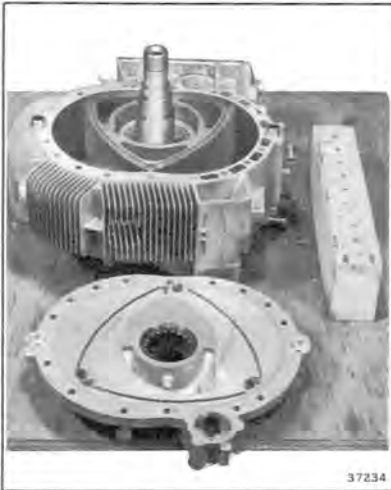

Figure 9-26
34. Lift off the fan end side housing being careful not to drop any seals and place it face side up next to the rotor housing. See Figure 9-26.